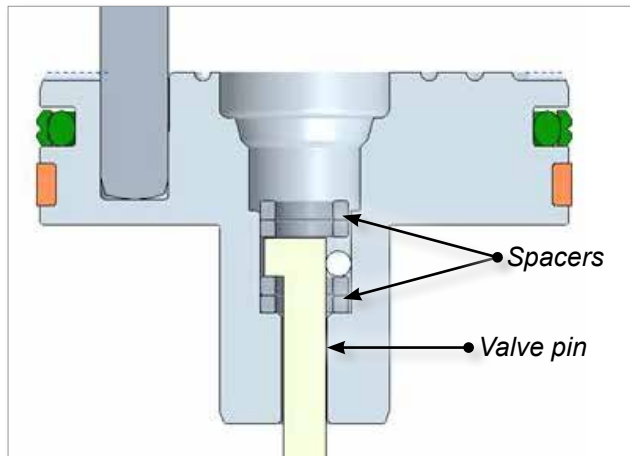

Figure 4-19 Install valve pin and spacers
6. Install the remaining two valve pin spacers (thickness = 2.0 mm and 2.3 mm) on top of the valve pin. See Figure 4-19.